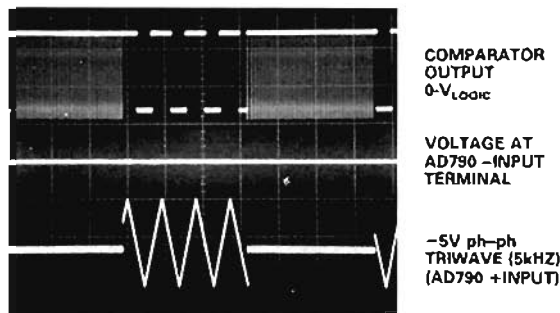

Figure 4. Comparator output, buffer output, and comparator input.
ERRATA . . . Analog Dialogue 23-3, page 21, Fig. 4: Because of pricing errors in the database, AD573JD is shown above AD573JN. Actually, it should follow AD575JD; similarly, AD573KD should follow AD575KD . . . In the 1988 and 1989-90 Converter Products Databooks, the D-22 package, specified for AD9700BD/BW/SD and AD9701BQ/SQ, has wrong dimensions. Use the data-sheet information . . . AD9028/9038 data sheet, in ENCODE INPUT section: for lines labeled Pulse Width (High)' and Pulse Width (Low)', data is transposed . . . Early editions of the ADSP-2100 Cross Software Manual and the ADSP-2100 User's Manual— give an erroneous phone number for bulletin-board service. The correct number is (617) 461-4258, 8 data bits, no parity, 1 stop bit, 300 to 2400 baud . . . 6B Series March 1989 Ordering Guide, page 2, power-supply nominal voltage spec (omitted) is 5 volts.